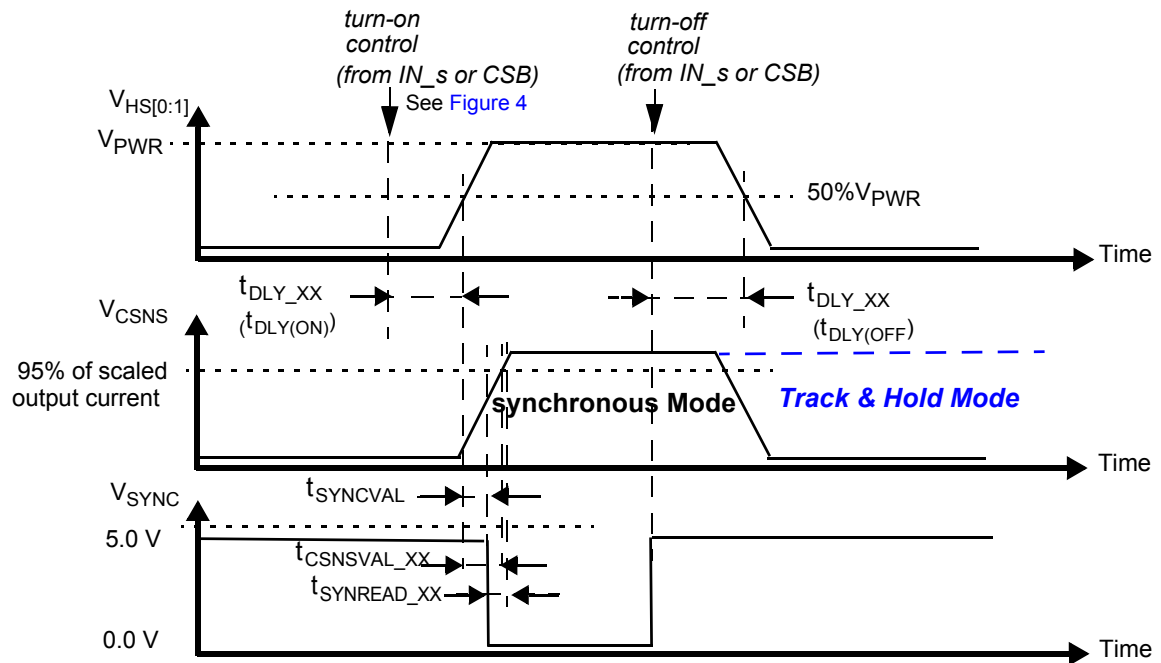

Figure 9. Synchronous & Track-and-Hold Current Sensing Modes: Associated Delay & Settling Times
- Settling time ($= t_{\text{CSNSVAL_XX}}$), SYNC output signal delay ($= t_{\text{SYNCVAL_XX}}$) and Read-out delay ($= t_{\text{SYNREAD_XX}}$) are defined for a stepped load current ($100\text{ mA} < I(\text{LOAD}) < I_{\text{OCLX A}}$ FOR $\text{CSNS_RATIO_S} = 1$, AND $300\text{ mA} < I(\text{LOAD}) < I_{\text{OCLX A}_0}$ FOR $\text{CSNS_RATIO_S} = 0$). (see Figure 9 and Output Current Monitoring \(CSNS\))
The CS pin allows independent current monitoring of channel 0 or channel 1 up to the steady-state overcurrent threshold. It can also be used to sense the device temperature. The different functions are selected by setting bits CSNS1_en and CSNS0_en to the appropriate value (Table 23). When the CSNS pin is sensed during switch-off in the (optional) track & hold mode (see Figure 9), it outputs the scaled value of the load current as it was just before turn-Off. When several devices share the same pull-down resistor, the CSNS pins of devices the current of which is not monitored must be tri-stated. This is accomplished by setting CSNS0_en = 0 and CSNS1_en = 0 in the GCR register (Table 10). Settling time ($t_{CSNSVAL_XX}$) is defined as the time between the instant at the middle of the output voltage's rising edge ($HS[0:1] = 50\%$ of V_{PWR}), and the instant at which the voltage on the CSNS-pin has settled to $\pm 5.0\%$ of its final value. Anytime an overcurrent window is active, the CSNS pin is disabled (see Overcurrent Detection on Resistive and Inductive Loads). The current and temperature sensing functions are unavailable in Fail-safe mode and in Normal mode when operating without the V_{DD} supply voltage. In order to generate a voltage output, a pull-down resistor is required ($R(CSNS)=1.0\text{ k}\Omega$ typ. and $470 < R(CSNS) < 10\text{ k}$). When the current sense resistor connected to the CSNS pin is disconnected, the CSNS voltage is clamped to $V_{CL(CSNS)}$. The CSNS pin can source currents up to about 5.6 mA.
To synchronize current sensing with an external process, the SYNC signal can be connected to a digital input of an external MCU. SYNC is asserted logic low when the current sense signal is accurate and ready to be read. The current sense signal on the CSNS pin has the specified accuracy $t_{SYNCVAL_XX}$ seconds after the falling edge on the SYNC pin (Figure 9) and remains valid until a rising edge is generated. The rising edge that is generated by the SYNC pin at the turn-OFF instant (internal or external) may also be used to implement synchronization with the external MCU. Parameter $t_{SYNCVAL_XX}$ is defined as the time between the instant at the middle of the output-voltage rising edge ($HS[0:1] = 50\%$ of $VPWR$), and the instant at which the voltage on the SYNC-pin drops below 0.4 V (V_{SOL}). The SYNC pins of different devices can be connected together to save μ -controller input channels. However, in this configuration, the CSNS function of only one device should be active at a time. Otherwise, the MCU does not determine the origin of the SYNC signal. The SYNC pin is open drain and requires an external pull-up resistor to VDD.